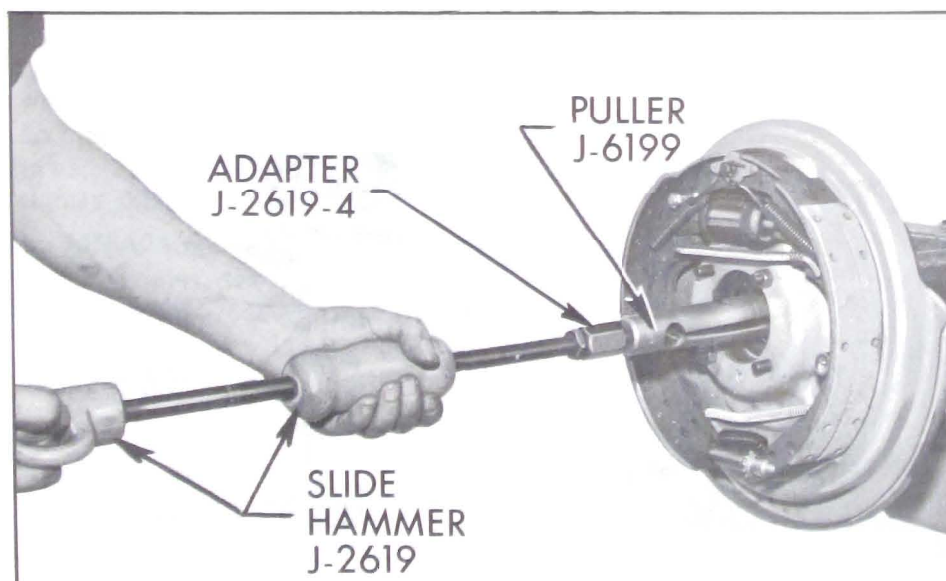

Fig. 6-52—Removing Axle Shaft Oil Seal
1. To remove oil seal, insert Puller J-6199 just through seal and expand. Pull seal with a slide hammer. See Figure 6-52.